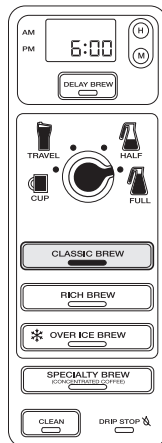
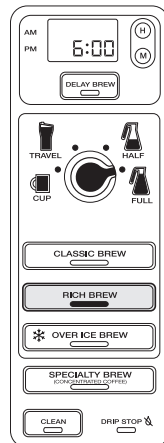

Fig. 17
Fig. 18
- 3 Press the Classic Brew or the Rich Brew button and the brew will begin. (Fig. 17, Fig. 18) Press Classic Brew or Rich Brew button again to cancel brew.